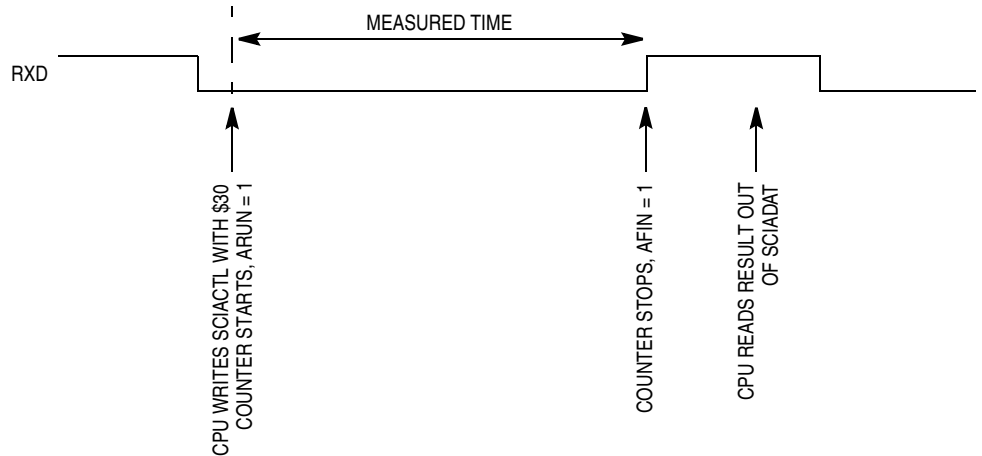
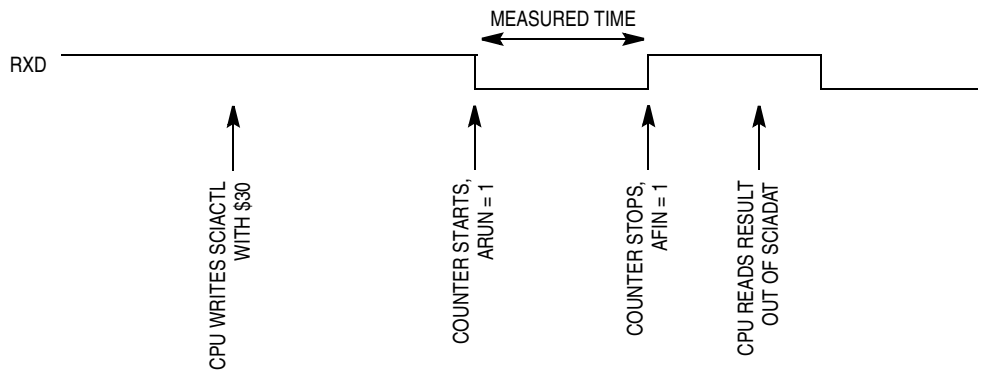

Figure 14-22. Bit Time Measurement with ACLK = 1, Scenario A
Figure 14-23. Bit Time Measurement with ACLK = 1, Scenario B
2. **ACLK = 1** — The counter is clocked with one half of the ESCI input clock generated by the ESCI prescaler. The counter is started when a logic 0 is detected on RxD (see Figure 14-22). A logic 0 on RxD on enabling the bit time measurement with ACLK = 1 leads to immediate start of the counter (see Figure 14-23). The counter will be stopped on the next rising edge of RxD. This mode is used to measure the length of a received break.